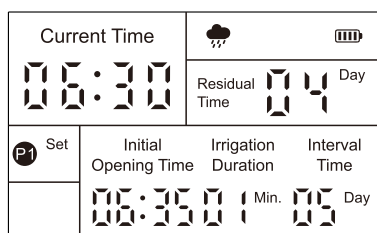

Figure 7
1) Press and hold "Rain Sensor" for 3 seconds, "☔" light up as shown in Figure 7, indicating that the rain sensor is on.